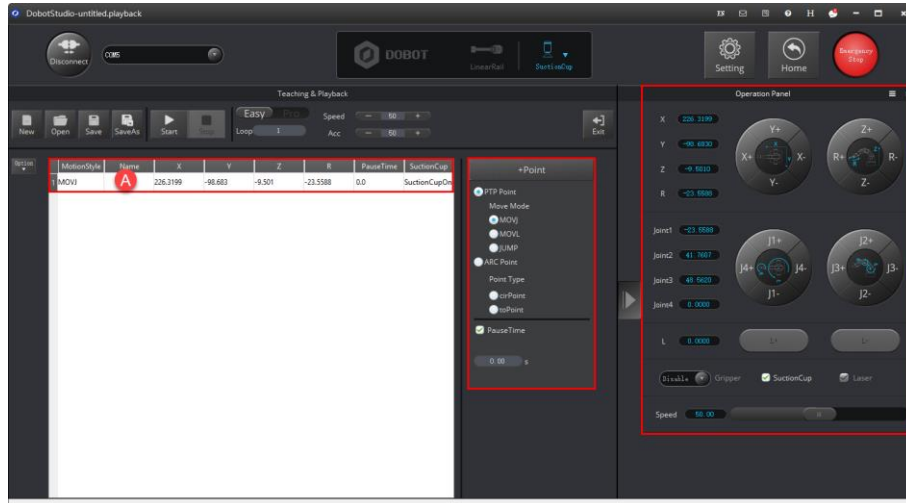

Figure 5.22 Save the start position A
5. Click **+Point** to save the coordinate corresponding to the position A, as shown in Figure 5.22.